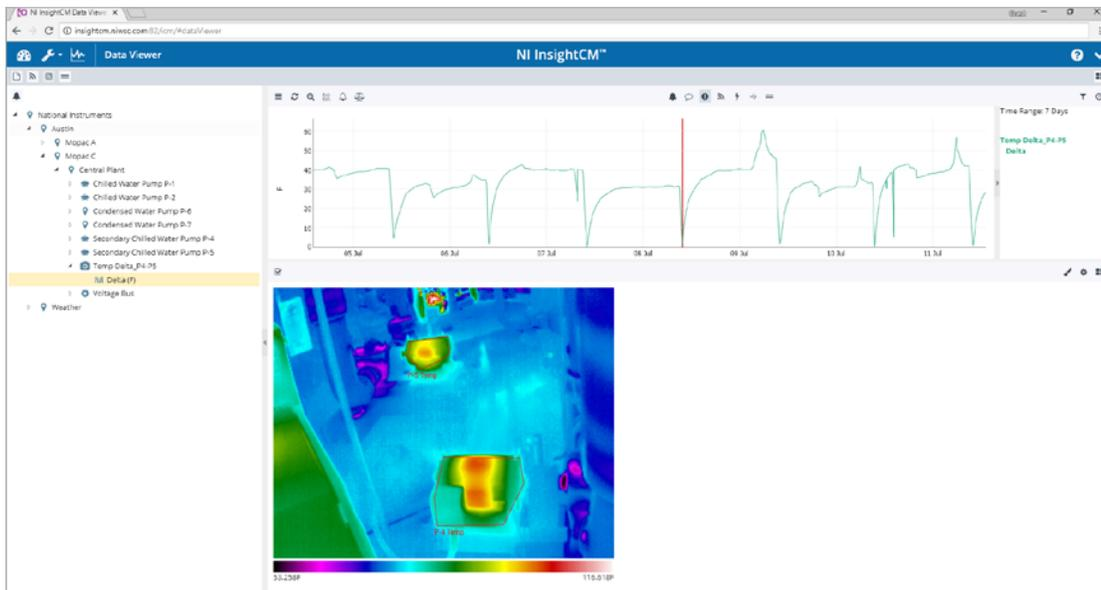

Figure 5. This InsightCM infrared thermography image shows two chilled-water pump-motor skids with a temperature differential trend line.
- **Thermography**—InsightCM automates the process of collecting and monitoring images from infrared cameras, as seen in Figure 5. This helps analysts monitor trend data from pre-drawn regions of interest and alarm on hot spots on transformers, motor control centers, breaker boxes, and bus bars.